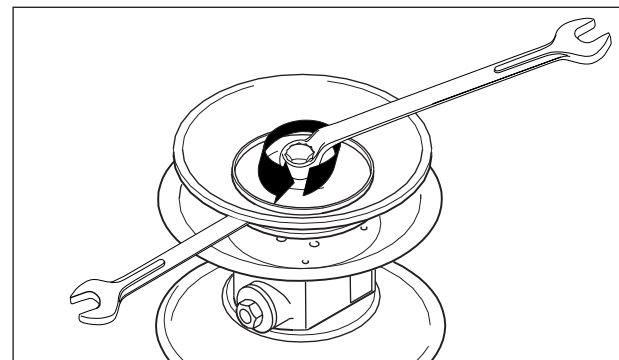

Fig. 10: Loosen the diaphragm plate. (Not used for nopped E4® diaphragms.)
- Loosen the outer diaphragm plate and take it off with the diaphragm (Fig. 10).